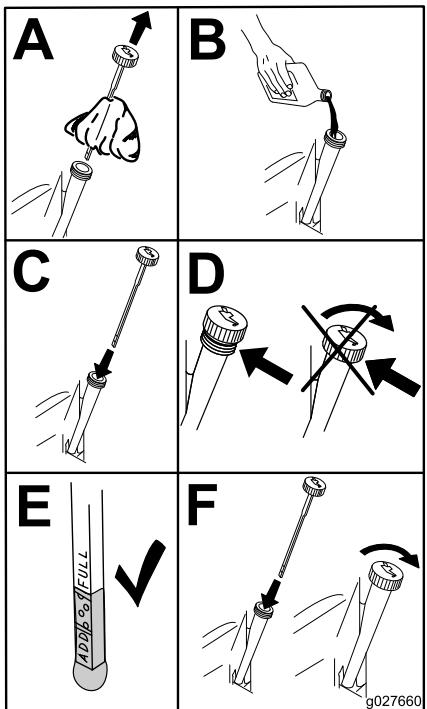

Figure 53
4. Slowly pour approximately 80% of the specified oil into the filler tube and slowly add the additional oil to bring it to the **Full** mark (Figure 53).